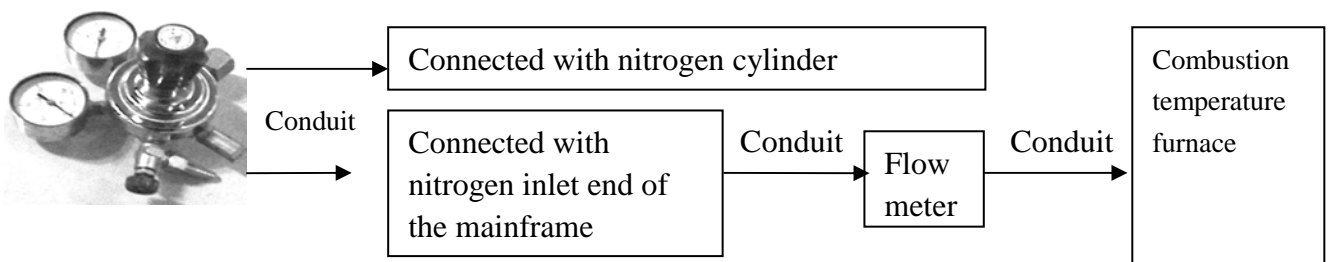

Fig. 3-11
- 3) Install the Combustion temperature furnace gas supplying system as shown in Fig.3-11 Circuit Diagram: This gas supplying system needs to be used when ASTM Volatile Matter test with nitrogen is adopted.